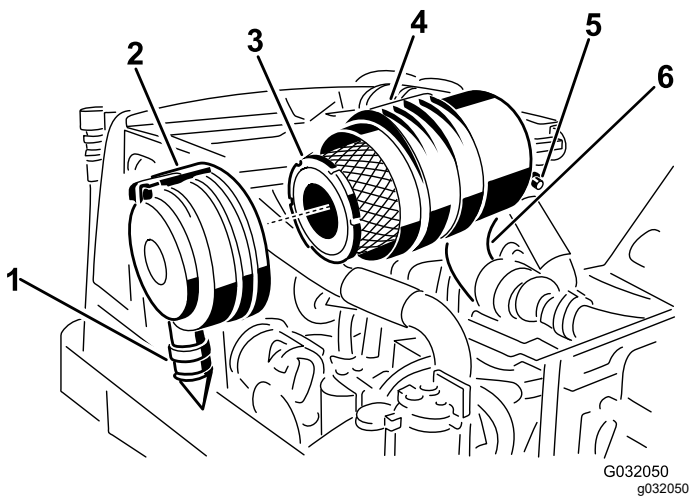

Figure 47
2. Remove the primary filter (Figure 47).
3. Replace the primary filter (Figure 47).
7. Install the cover, orienting the rubber outlet valve in a downward position between the 5 o'clock to 7 o'clock positions when viewed from the end, and secure the latch (Figure 47).